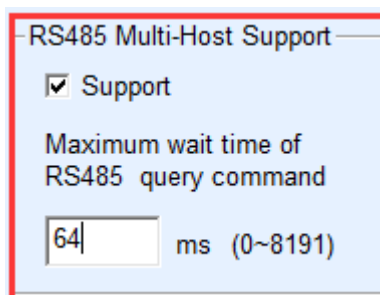

Figure 49 RS485 Multi-host Support
- 2) As shown in figure 49 "Maximum wait time of RS485 query command", generally determined according to the instruction length of responses back and forth, if send instructions for N bytes, response to M byte, it is recommended that the set value is: